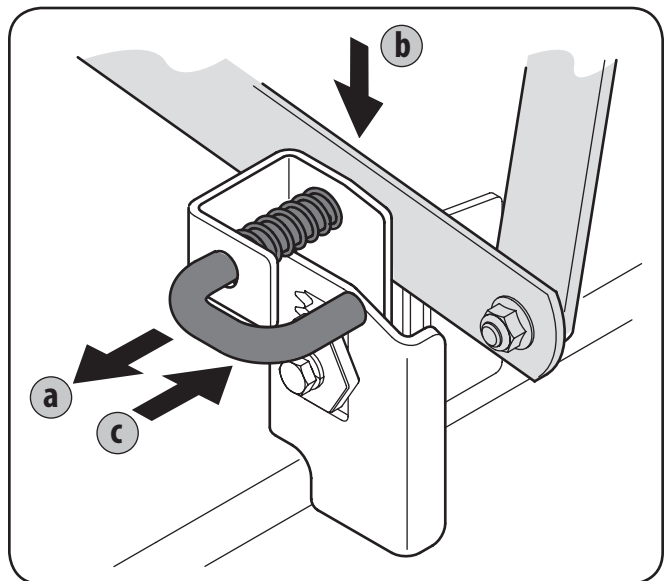

Figure 7-6
5. Locate the deck support pin found on the left bracket and pull it outward. Align it with the hole in the lift link before releasing it to secure the pin in place. Repeat on the right side of the deck. See Fig. 7-6.